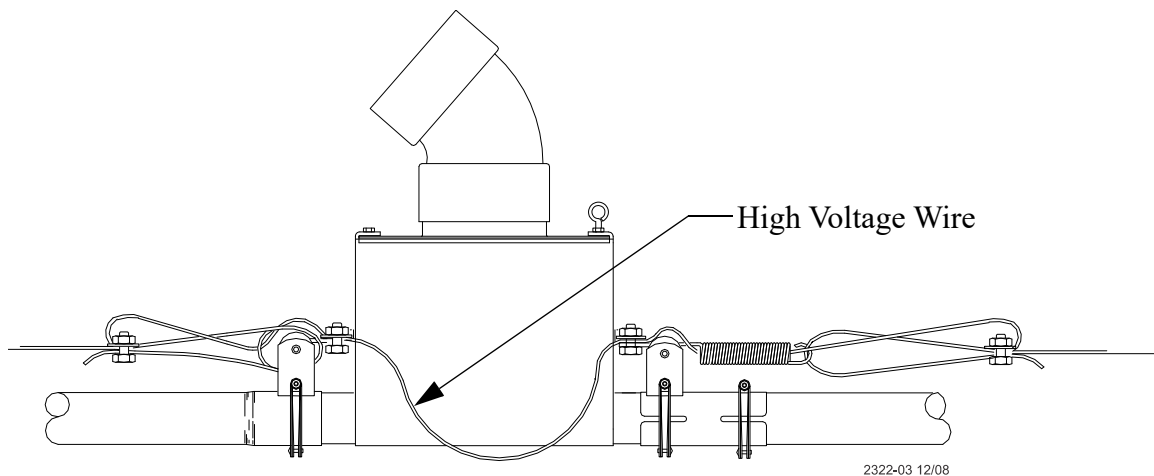

Figure 61. High Voltage Wire Installation
13. Install the high voltage wire from the insulator on one side of the boot to the insulator on the other side of the boot, see **Figure 61**.